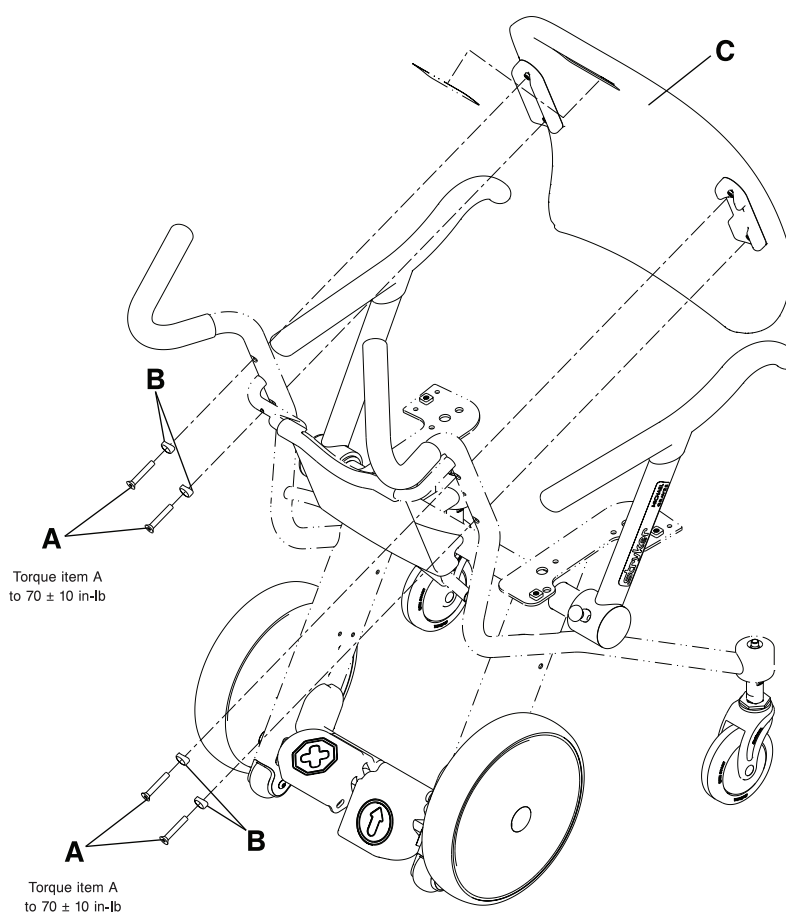

Figure 20: Seat back removal
2. Using a 3/16" hex wrench, remove the four flat head cap screws (A) and adaptors (B) to remove the seat back (C) from the chair frame. Save the screws, adaptors, and seat back (Figure 20 on page 37).
3. When reinstalling the seat back, use a 3/16" hex wrench to reinstall the four flat head cap screws (A) and adaptors (B) (removed in step 2) to secure the seat back (C) to the chair frame (Figure 20 on page 37). Using a 3/8" drive torque wrench, torque the screws to 70 ± 10 in-lb.